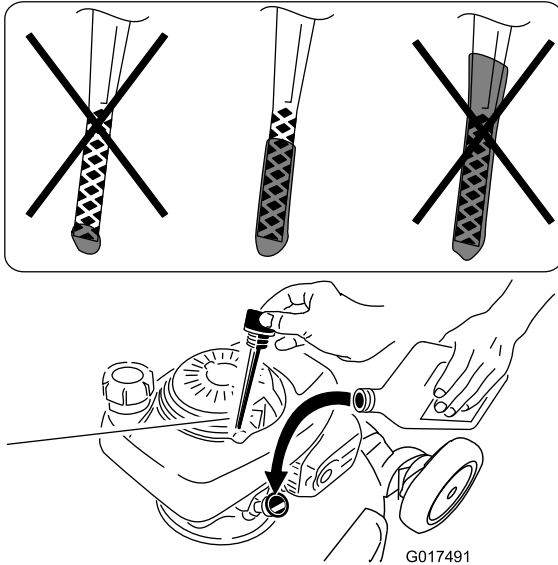

Figure 10
2. Remove the dipstick (Figure 10).
5. Remove the dipstick and read the oil level; refer to Figure 10.